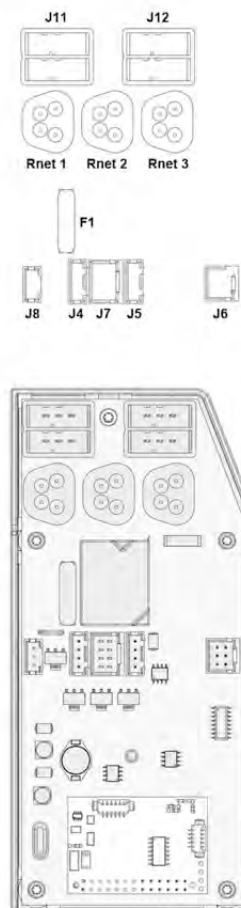

Figure 162. ICS Master Module.
5. Disconnect the connectors J4, J5 och J7 from the ICS Master Module. See fig.162.